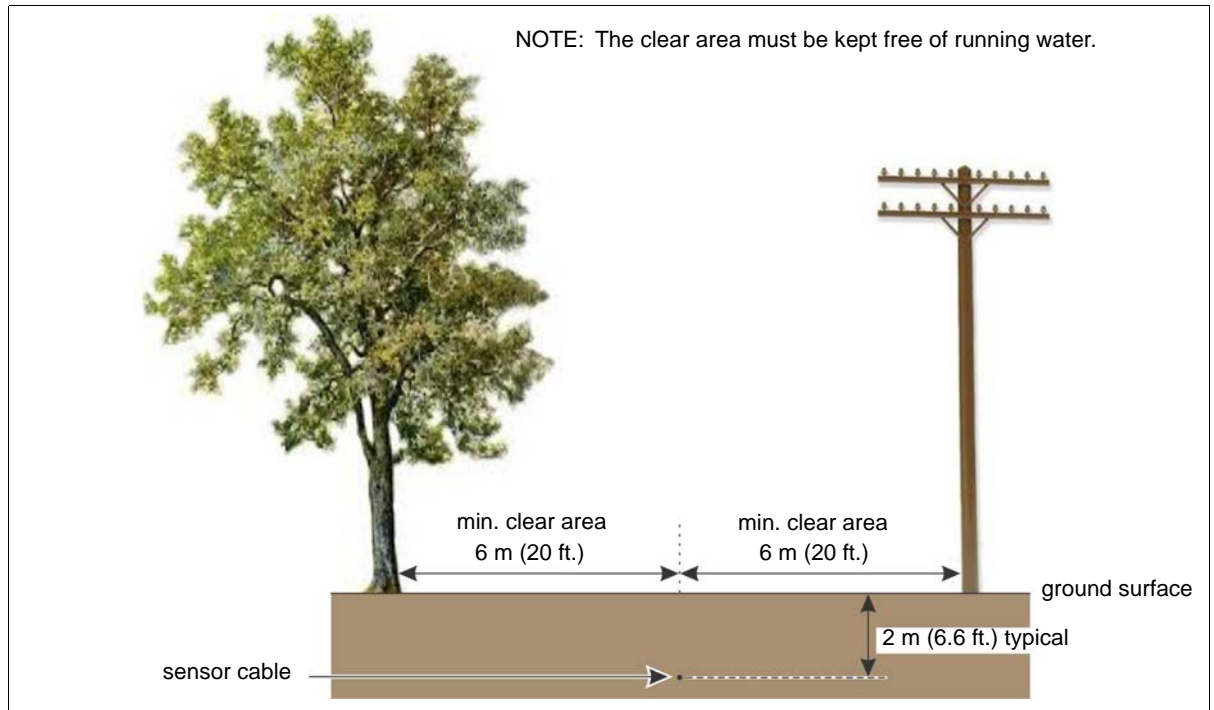

Figure 65: Minimum separation distances from obstacles
- recommended clearance: minimum 6 m (20 ft.) of clearance on each side of the sensor cable to prevent vibrations created by an object from disturbing the cable; total clear area centered over cable 12 m (40 ft.) (see Figure 65:) (e.g. fences, sign posts, utility poles, trees, bushes and vegetation over 30 cm high, etc.)